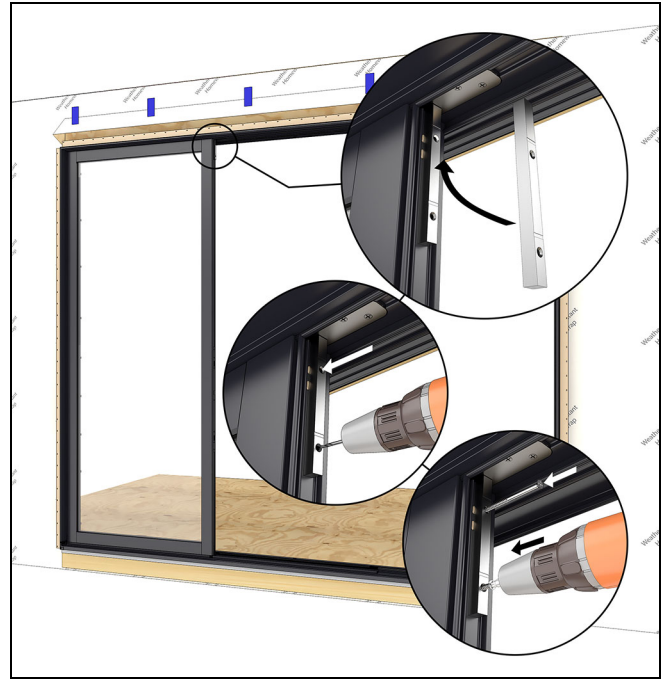

Figure 102
4. Slide the lock bar into the strike plate until it bottoms out in the head jamb. Pre-drill into the stile with a 1/8" (3) drill bit, then fasten with a #10 x 4 1/2" (114) screw in the top hole and a #10 x 1" (25) screw in the bottom hole (both screws provided). See Figure 102.